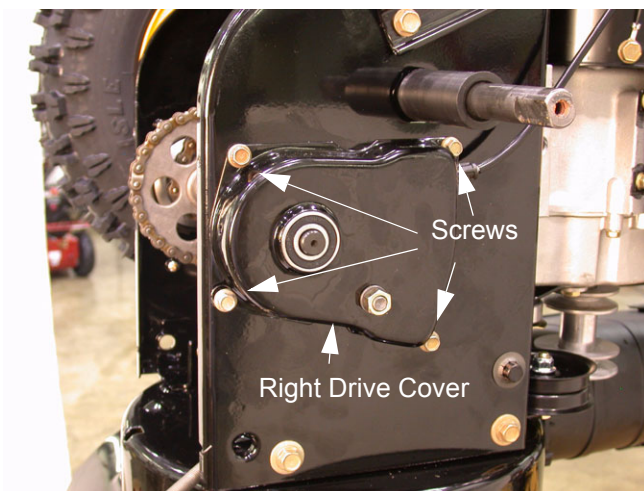

Figure 21
- 10.8. Using a 3/8" socket, remove the four screws securing the right drive cover to the frame. Remove the drive cover. Repeat for the left drive cover. See Figure 21.